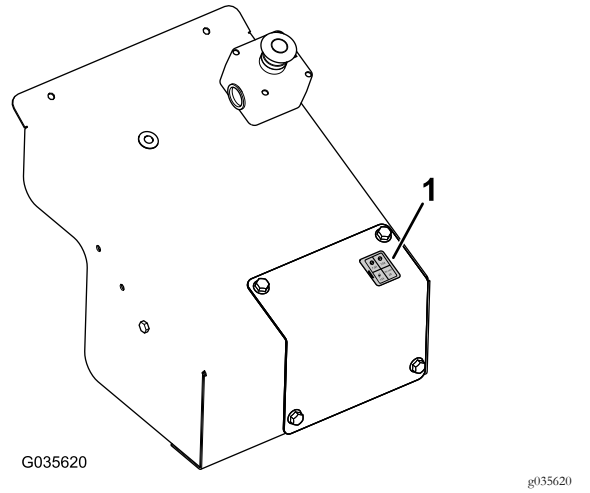

Figure 22
13. Place the fuse decal on the manual override cover (Figure 22).